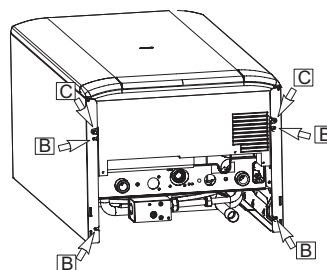

Figure 17.2
- Loosen the screws B (Figure 17.2). Bring the bottom of the panels away from the boiler and lift them, freeing them from the top hooks.